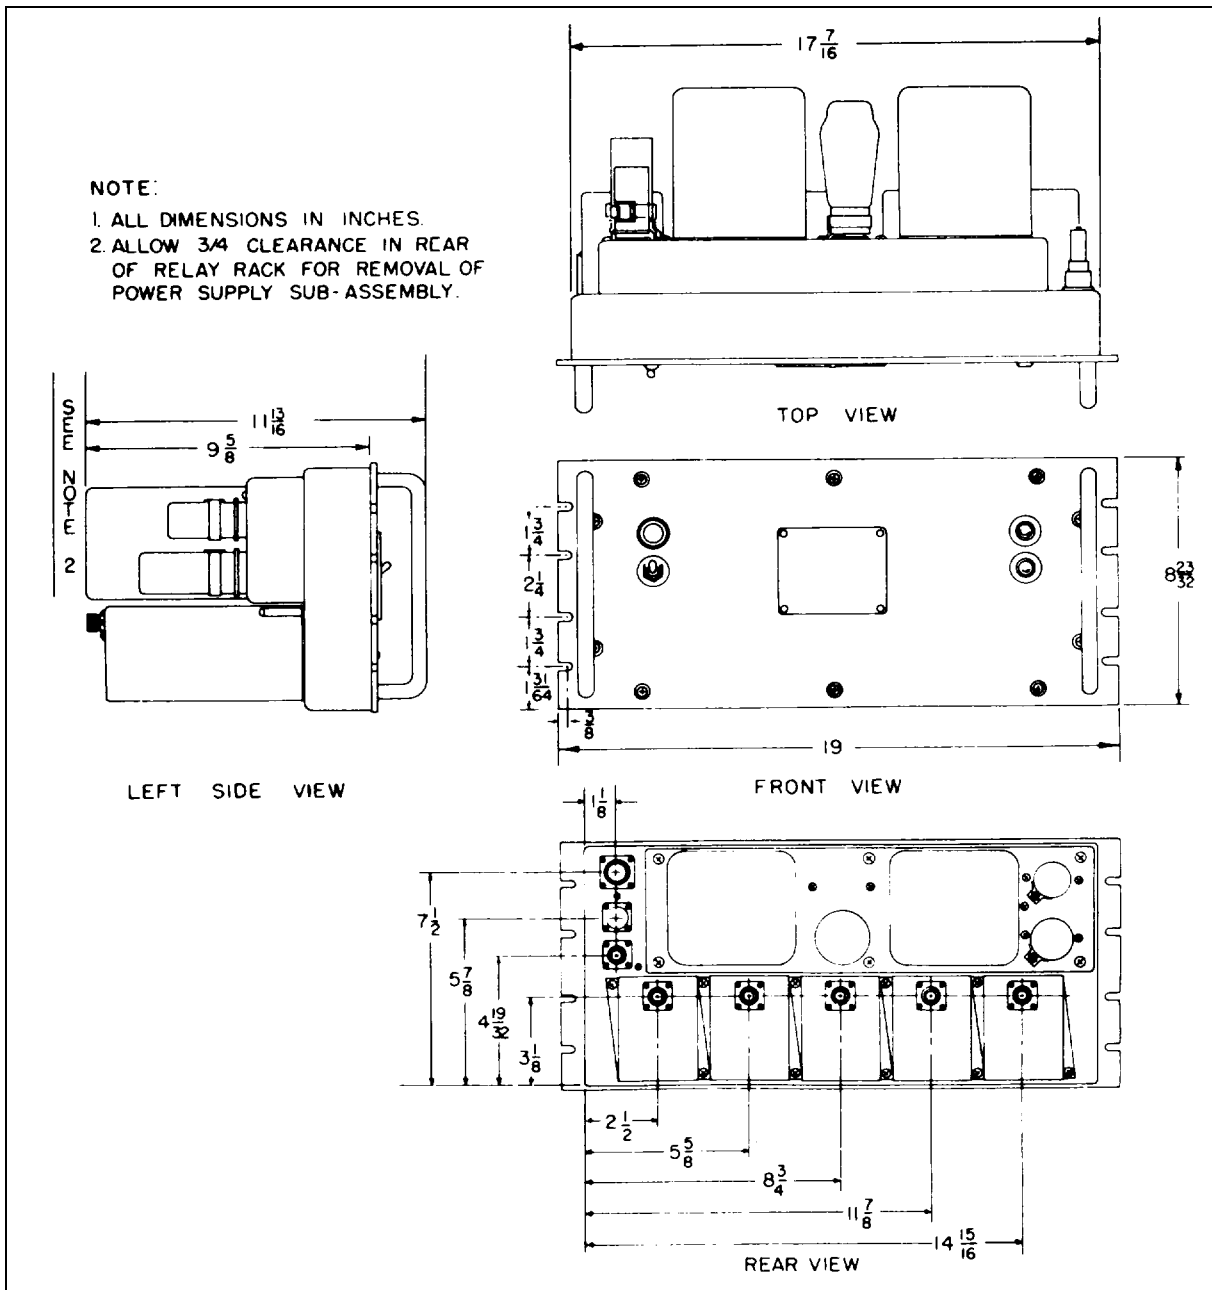

Figure 3-1. Antenna Coupler CU-168/FRR, Dimensional Outline Diagram
2. INSTALLATION. (See figure 3-1.)